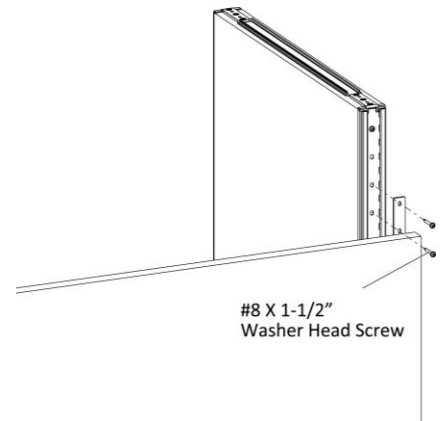

Figure 4
7. Position the gallery panel with a female bed fitting bracket and standard panel to create a 90-degree angle, (Figure 4).